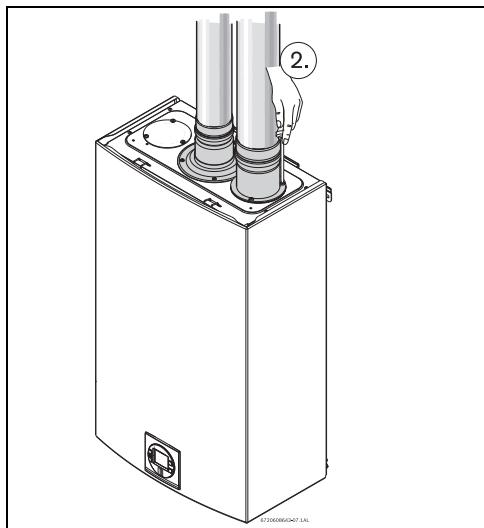

Fig. 19 Inlet connection
- Attach the combustion air inlet accessory to the top of the unit fig. 19 (position 2) using the 3 screws and gasket provided, and install 3" air intake pipe over the accessory.